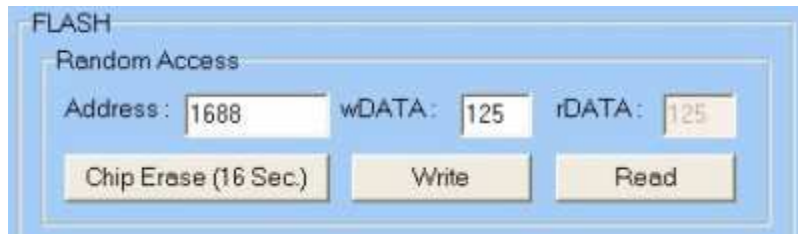

Figure 6.5. Random Access to the Flash Memory
1. Click on Button Flash to change to Flash Memory Control Page (Refer to Figure 6.5).
3. Please refer to Figure 6.5. Key in a random address (1688 in the example) and value in wDATA field (125 in the example). Click on Write will write 125 to address 1688.